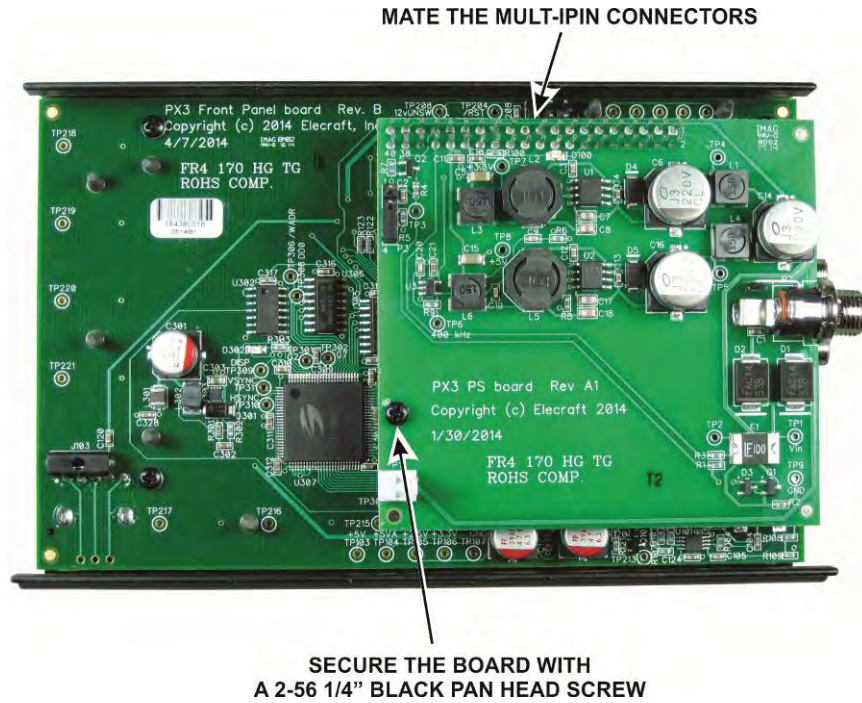
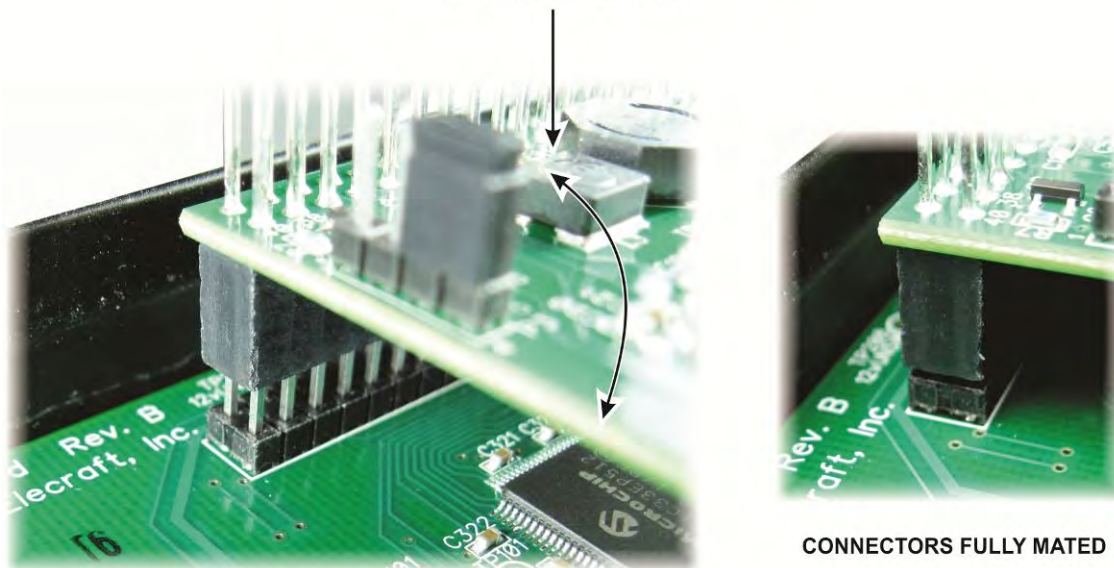

Figure 32. Installing the Power Supply Board.
Figure 33. Mating the Power Supply Board Connectors.
□ Remove the power supply pc board and mount it on the back of the front panel board as shown in Figure 32. Be sure the multi-pin connectors are properly lined up and fully mated as shown in Figure 33. The connectors fit very tightly.
Remove the screw holding the power supply board to the front panel board (see Figure 32 on page 44) and then separate the connectors. Rock the power supply board while lifting it off as shown in Figure 33.